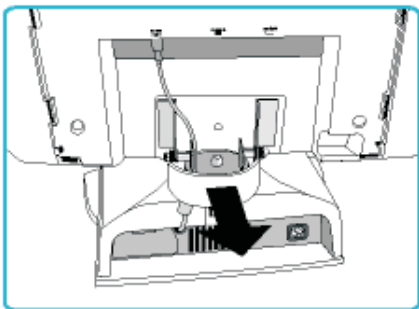

Fig. 2
- Step 2 : Remove plastic ring from the hinge. See Fig. 2